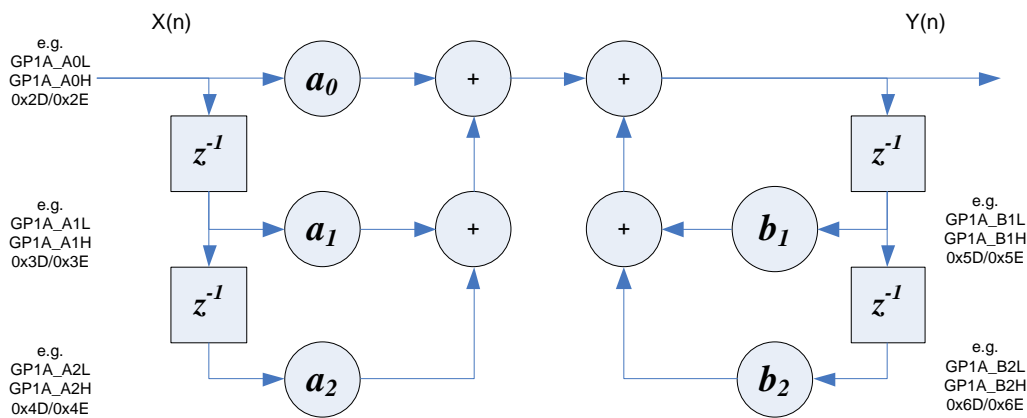

**Figure 15: Digital signal processing engine (simplified block diagram)**
A digital high pass filter for each DAC channel is implemented (configurable by control DAC\_HPF\_F0 (address 0x14, Table 56) that can be enabled via control DAC\_HPF\_EN (address 0x14, Table 56, see blocks ‘DAC HP’ in Figure 15). After Reset, the high pass filters for both channels are enabled by default.
The digital signal processing engine includes a configurable audio processor that offers flexible routing and extensive audio enhancement and effects. Linear phase FIR filters perform the interpolation and decimation for the required sigma-delta sample rates. Configurable high-pass filtering (optionally enabled) removes any signal DC offset (see blocks 'ADC HP' and 'DAC HP' in Figure 15) and offers 5-band equalisation during recording and sound playback.
Alternatively it can provide dedicated voice band filtering at samples rates  $\leq 16$  kHz (see blocks 'ADC IIR' and 'DAC IIR' in Figure 15).
An additional general purpose (GP) filter engine offers up to eight second-order biquad filter stages with configurable 16-bit coefficients, and supports flexible digital audio routing and mixing arrangements. Figure 15 shows some possible routings (a subset of the available settings) for filter blocks GP1A to GP2D with the related control registers. Typical use cases with example configurations are explained in the section 8.3.
To allow user-specific sound control, the recording path includes a programmable 5-band equaliser (combined in the ADC IIR blocks in Figure 15). This is enabled using control ADC\_EQ\_EN (address 0x13, Table 55).